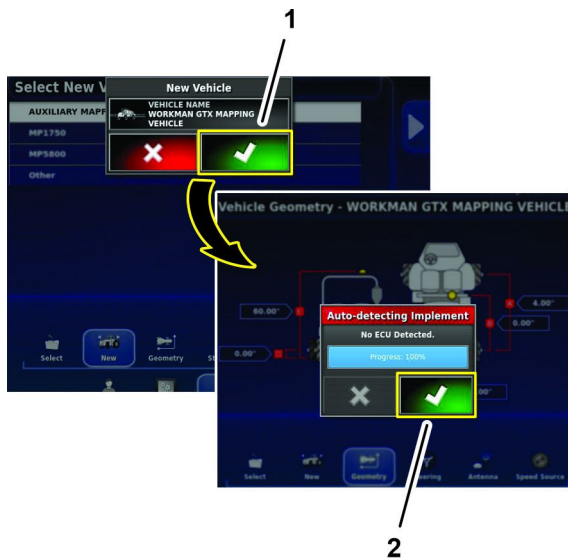

Figure 187
7. In the new vehicle dialog box, press the confirm icon (Figure 187).
8. In the auto-detecting implement dialog box (Figure 187), press the confirm icon.